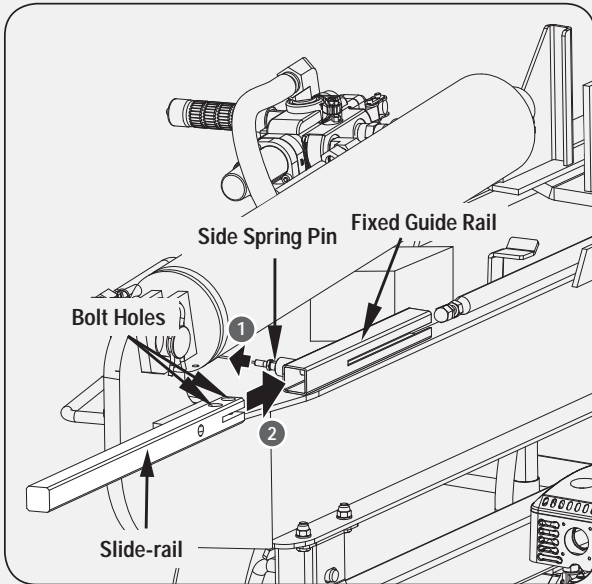

Figure 17a
1. Pull out the side spring pin and insert the slide-rail through the fixed guide rail until the two bolt holes on the slide-rail are fully exposed. (See *Figure 17a.*)